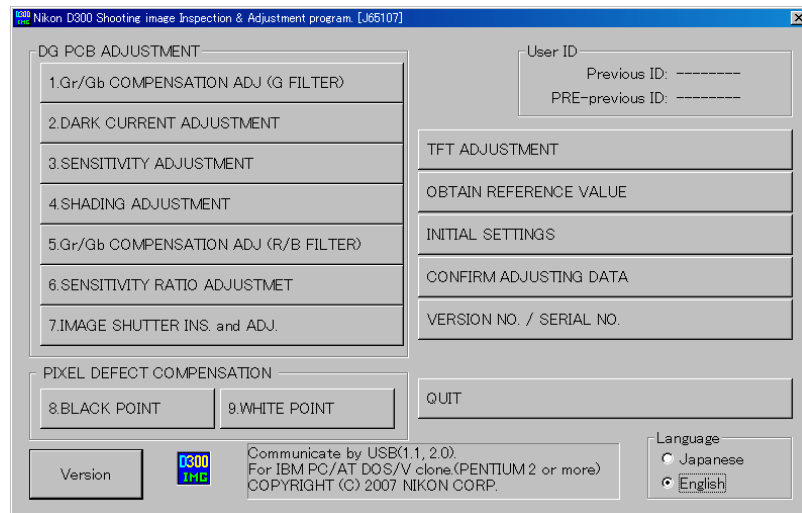

Fig.1
- (1) Execute "D300IMG.exe" to start up the main screen. (ref. Fig.1)